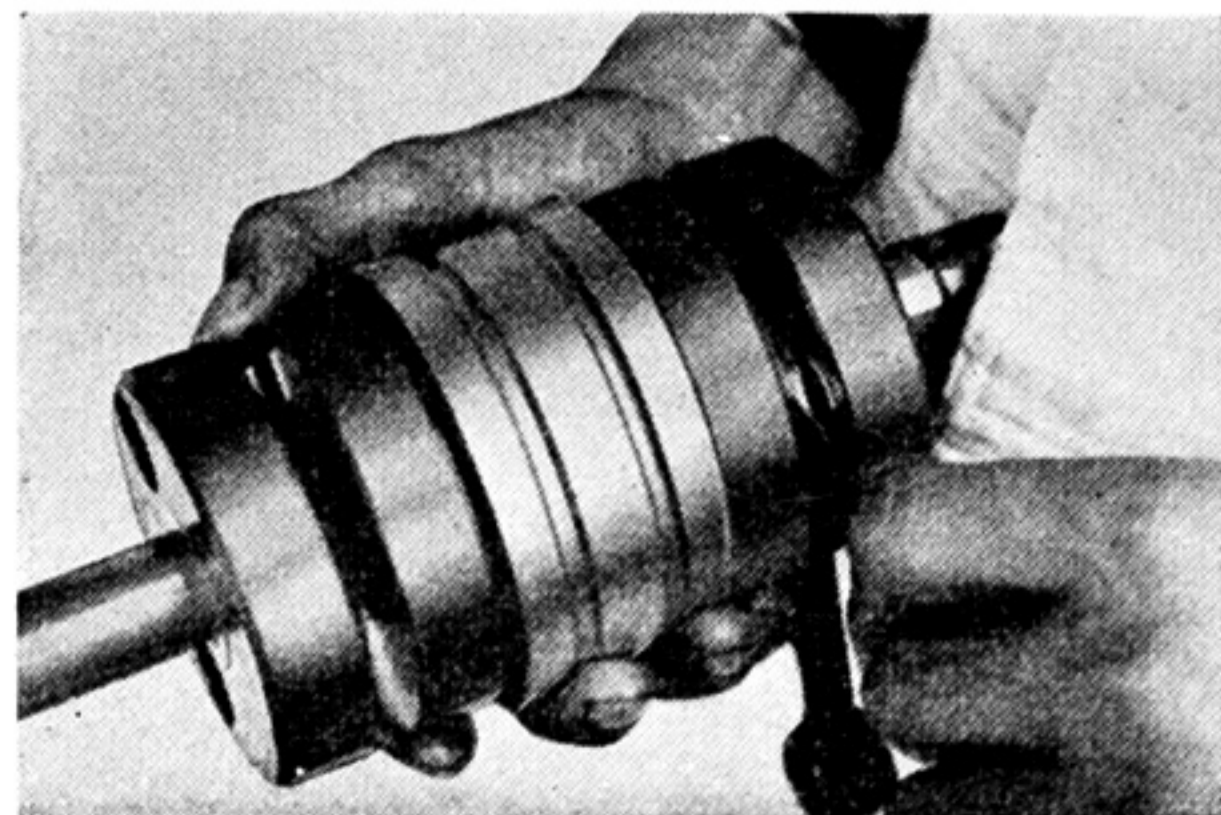

Fig. 3-16-23
- (2) After reconditioning, axial play should be between 0.8 mm and 1.0 mm.
- b. Checking the Connecting Rod for the Large End Side Play (Fig. 3-16-23)